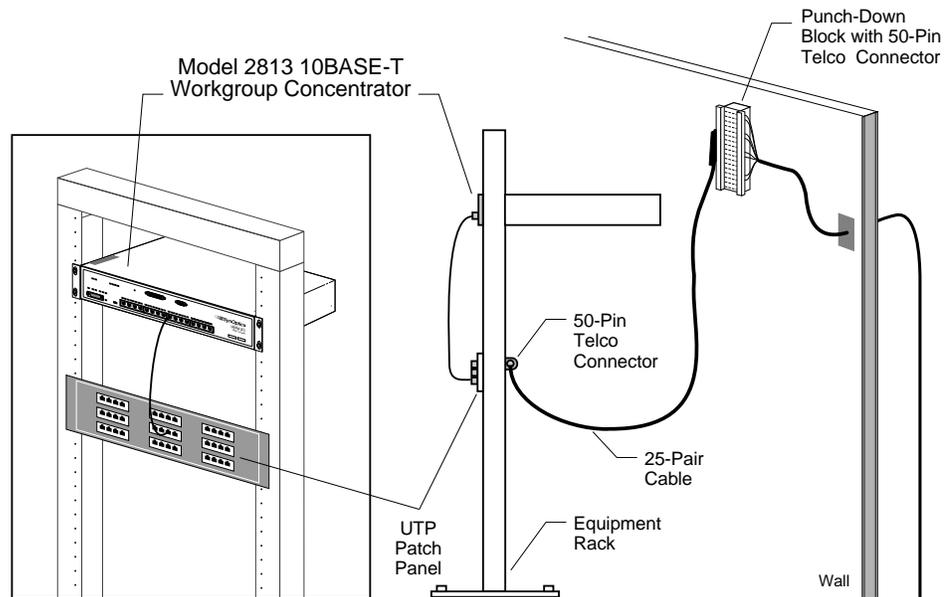
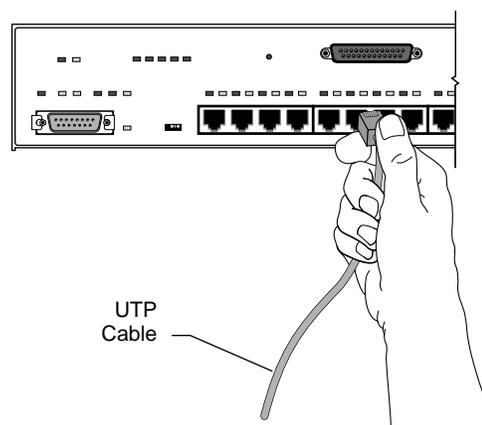

Figure 3-7. Connecting 25-Pair Cable
Figure 3-8. Model 28xx 10BASE-T Port Connection
- 3. Connect a 25-pair UTP cable from the punch-down block to a UTP patch panel (see Figure 3-7).**
4. Connect one end of a UTP patch cable (e.g. Model 910) to the UTP patch panel (see Figure 3-7). Connect the other end to a 10BASE-T port on the Model 28xx (see Figure 3-8).